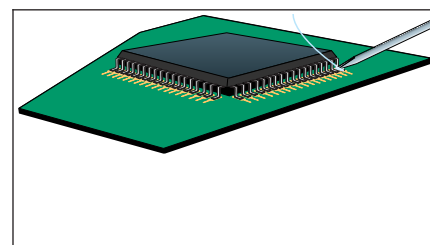

Figure 1 Start at Corners
3. Begin by applying flux to a corner land, then place a light bump of solder evenly across the land. This will be the first of two points that will fix the component to the board. (See Figure 1.)